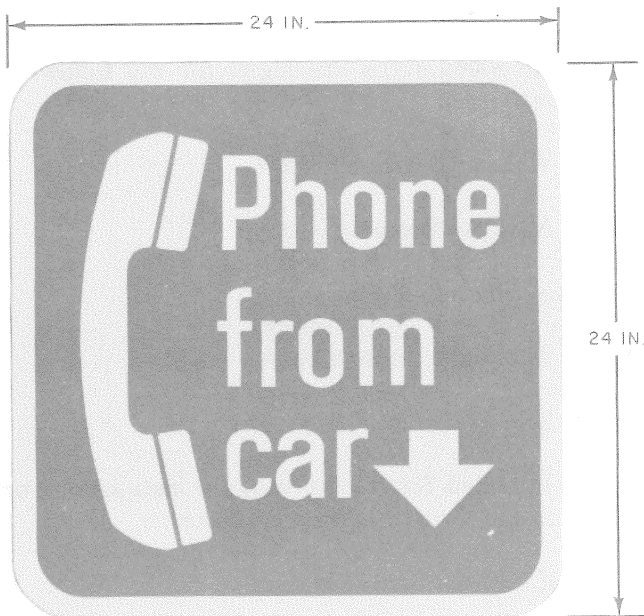

Fig. 6—KS-20065, List 5 Sign
- (b) KS-20065, List 5 (Fig. 6):